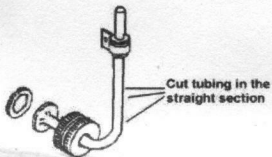

Figure 5
7. If the old supply line is not a 1/4" compression fitting you will need to cut the old fitting off of the line. (See Figure 5) **Quick Tip:** For plastic lines a utility knife is all that is needed. Make sure you cut the tubing at 90°. For copper tubing a [ELB400] mini tubing cutter is ideal to cut copper tubing in a tight space.
12. If old valve does not have a compression fitting, it will be necessary cut the existing fitting off. (See Figure 5)
17. If old valve does not have a compression fitting, it will be necessary cut the existing fitting off. (See Figure 5)